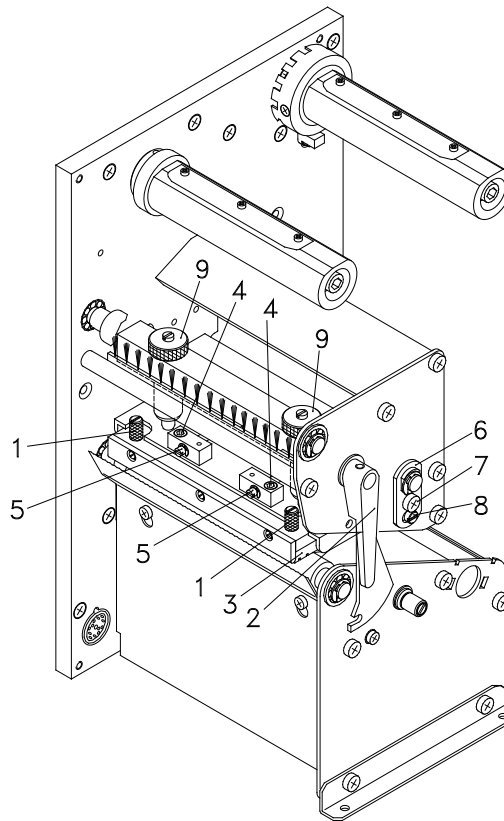

Figure 16
1. Loosen the screws (4, Figure 16) with a hexagon key by approx. $\frac{1}{4}$ rotations.
2. Adjust the parallelism with the adjusting screws (5, Figure 16).
4. Tighten again screws (4, Figure 16).
1. Loosen screw (7, Figure 16) with a screwdriver by approx. $\frac{1}{4}$ rotations.
2. In order to achieve a pressure balance, turn the excentric bolt (8, Figure 16) as long as the printing result comes up to your full expectation.
3. Tighten again screw (7, Figure 16).
1. Turn pressure screws (9, Figure 16) to change the pressure of printhead.
2. Turning the pressure screws (9, Figure 16) as far as they will go in clockwise direction results in a pressure increase of 10N in contrast to the factory setting.
3. Turning the pressure screws (9, Figure 16) exactly one rotation from the right stop position counter clockwise results in the factory settings.